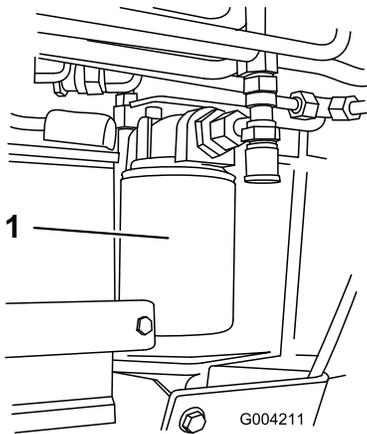

Figure 58
4. Place a drain pan under the filter (Figure 58).
5. Remove the old filter (Figure 58) and wipe the surface of the filter adapter gasket clean.
7. Install the replacement hydraulic filter onto the filter adapter (Figure 58). Tighten it clockwise until the rubber gasket contacts the filter adapter, then tighten the filter an additional 3/4 turn.